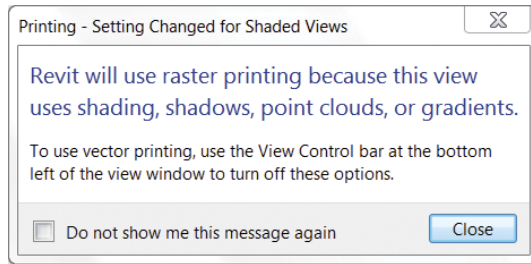

FIGURE 12.31 Raster printing is required for some effects.
15. In the case that your print set includes some views with shading or other graphics effects like shadows, Revit will show you a warning similar to Figure 12.31. This means that Revit will use raster processing instead of vector processing for these views. See the following sidebar for some additional information about the differences between vector and raster processing.